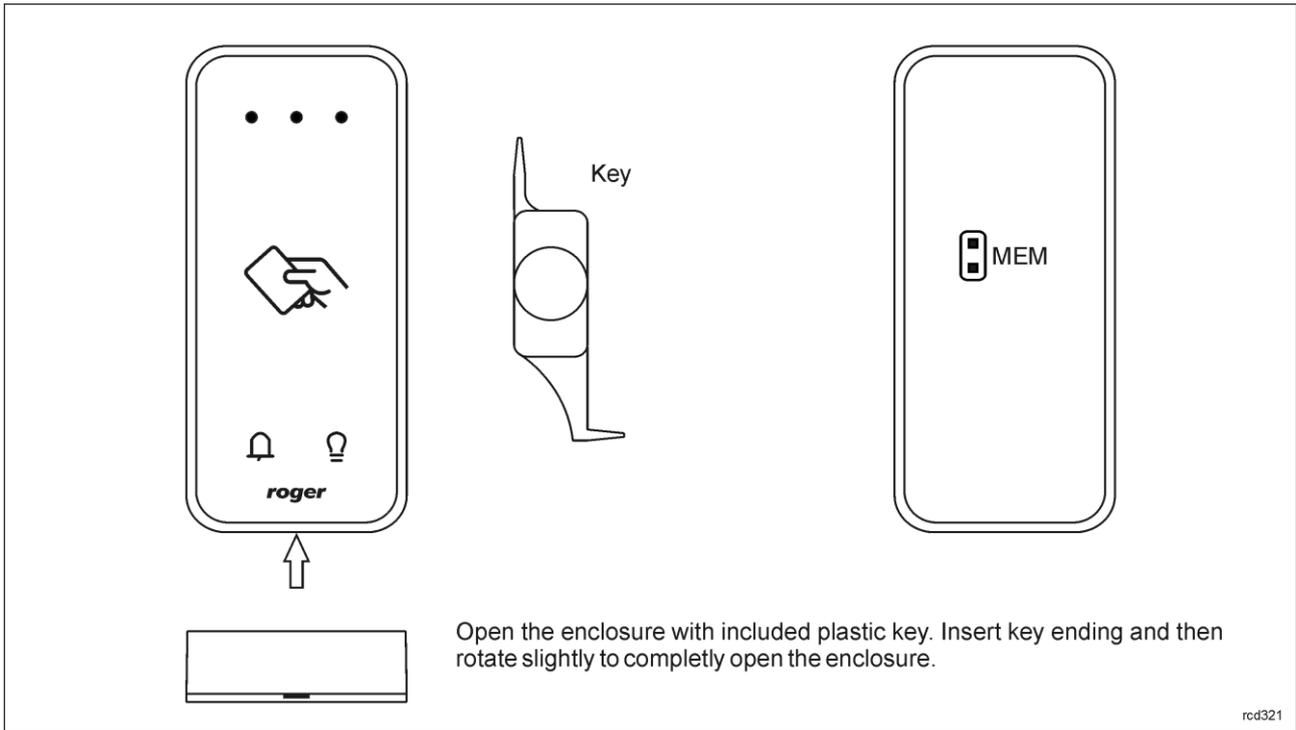

Fig. 5 Enclosure disassembly
1. Place jumper on MEM contacts (fig. 5).
2. Place jumper on MEM contacts (fig. 5).